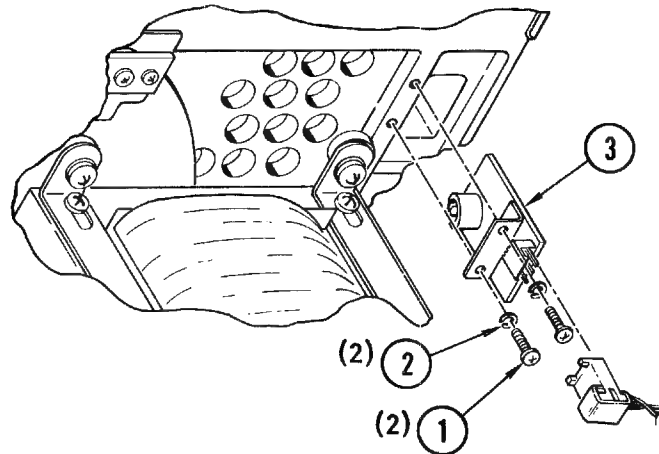

Figure 4-18. Tape-in-Path Sensor, Transmitter
4-32. Removal and Replacement (Figure 4-18). Place the transport in service access position (paragraph 4-3) and proceed as follows:
- b. Remove two screws (1, Figure 4-18) and lockwashers (2) and pull transmitter (3) carefully through hole from back of top plate.
- c. Position replacement sensor transmitter carefully in place through hole from back of top plate and secure with screws (1) and lockwashers (2).
- b. Remove attaching screw (1, Figure 4-18), lockwasher (2), and flatwasher (3) and remove tape-in-path sensor receiver (4). Save attaching parts for reassembly.
- c. Install replacement receiver using screw (1), lockwashers (2) and flatwasher (3).